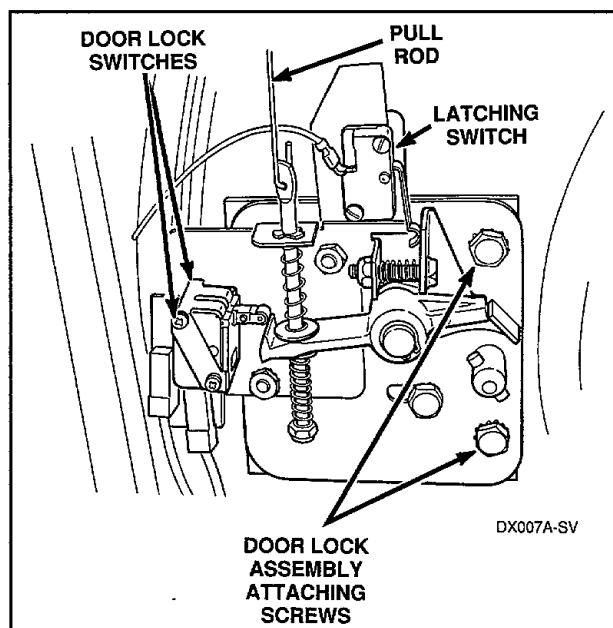

Figure 8
- Remove three screws and lockwashers holding door lock assembly to front of outer tub, *Figure 8*.
- Unhook door lock assembly from pull rod, *Figure 8*.